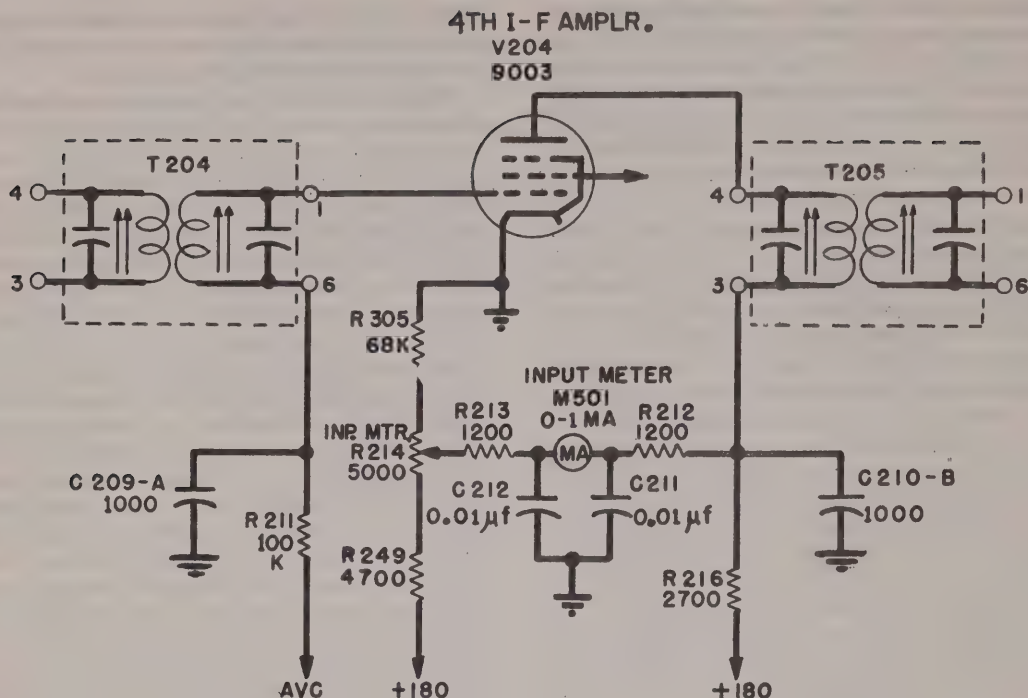

Figure 2-9. Simplified Schematic—Input Meter (M501) Circuit
(3) INPUT METER CIRCUIT. Input meter M501 is provided to indicate the approximate incoming signal strength. It also serves as an alignment indicator for the oscillator-multiplier section when switch S201 is placed in the ALIGN position. A simplified schematic of the meter circuit is shown in figure 2-9. One side of meter M501 is connected to terminal No. 3 of transformer T205 through a low-pass filter consisting of R212 and C211. The other side of the meter is connected through a similar filter (R213 and C212) to the arm of INP. MTR. control R214. Potentiometer R214, along with resistors R249 and R305, is in a voltage divider network connected between the 180-volt supply and ground.